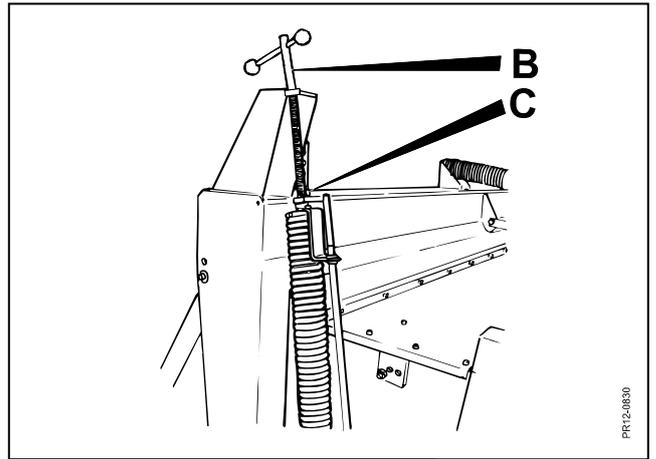
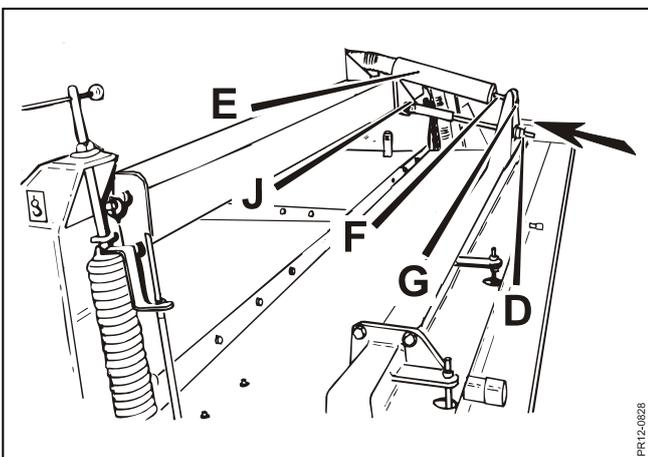

Fig. 3-9
Fig. 3-12
- Fig. 3-12**      The vernier adjustment is made by adjusting the inclination of the cutter bar on the spindle at **D**. A spring cotter **J** secures the adjustment. Adjustment is made in both sides!
- Fig. 3-9**      3) The height relief springs are adjusted with the handle **B**, until the cutter bar **has** a suitable ground pressure.
- Fig. 3-9**      A counter nut **C** secures the adjustment.
- Fig. 3-12**      4) The **Top Safe** spring **E** is adjusted until the cutting platform can be moved in the direction of the arrow, with a **suitable pressure**.
- A) By loosening the horizontal top springs a little (Fig. 3-12) page 32, and tightening the vertical height relief springs a little (Fig. 3-9).